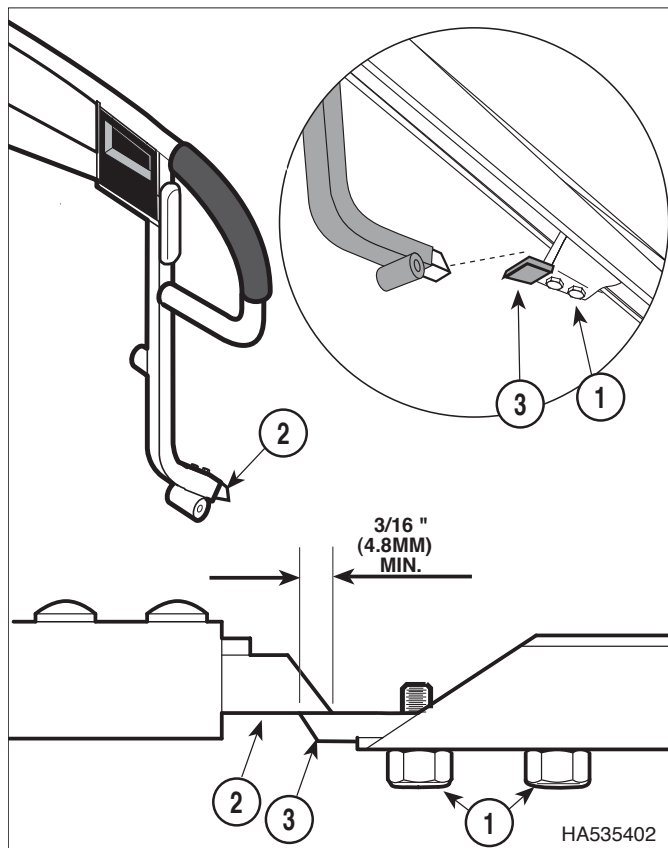

Figure 4-14. 750N and 750W Siderail Latch Adjustment
- (1) Loosen two screws (1, Figure 4-14).
- (2) Slide latch plate (2) in or out until latch bolt (3) has a minimum of 3/16 in. (4.8 mm) engagement with latch plate.
- (3) Tighten two screws (1).